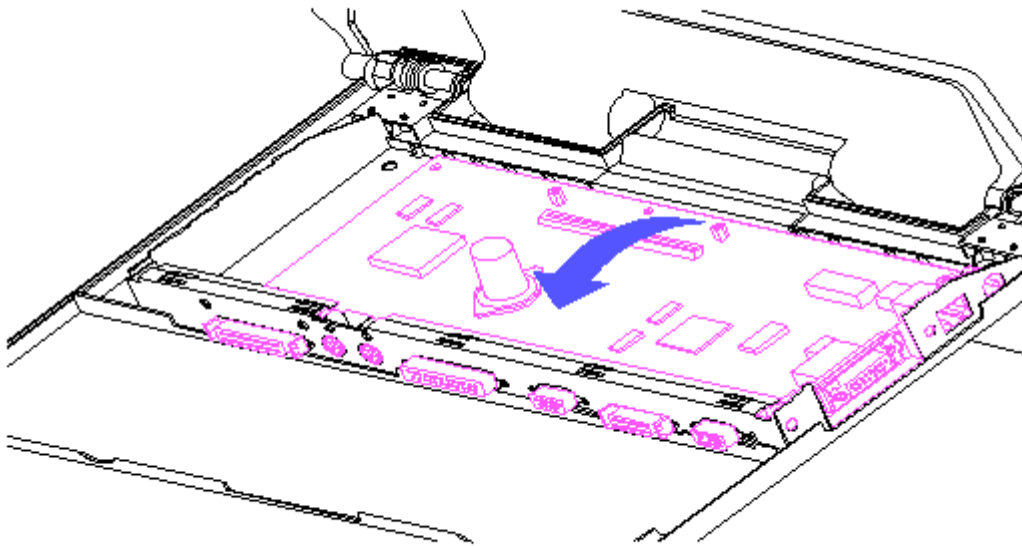

Figure 4-14. Removing the Interface Board
8. Rotate the interface board out of the sheet metal pan (Figure 4-14).